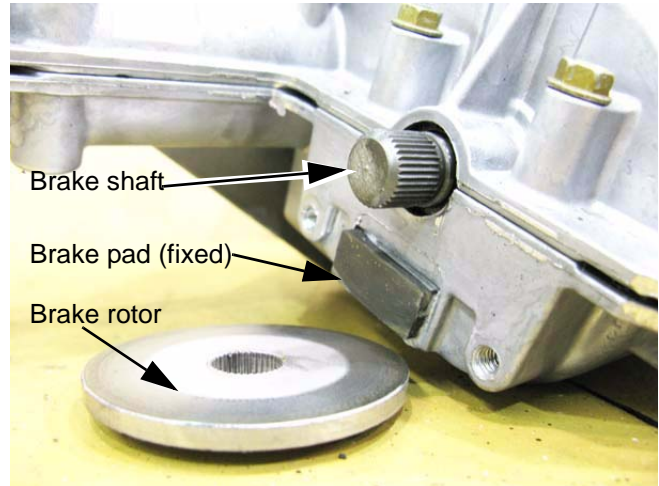

Figure 5.63
- 6c. Slip the brake rotor off of the brake shaft (splined end of bevel gear shaft). See Figure 5.63.